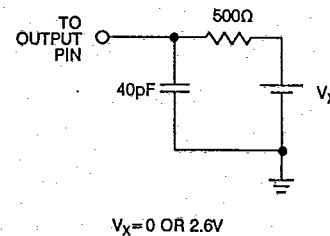

Figure 2. Output Three-State Delay Load
1. Transition is measured $\pm 500mV$ from steady state voltage with loading specified in Figure 2.
3. See Test Load Figure 2.